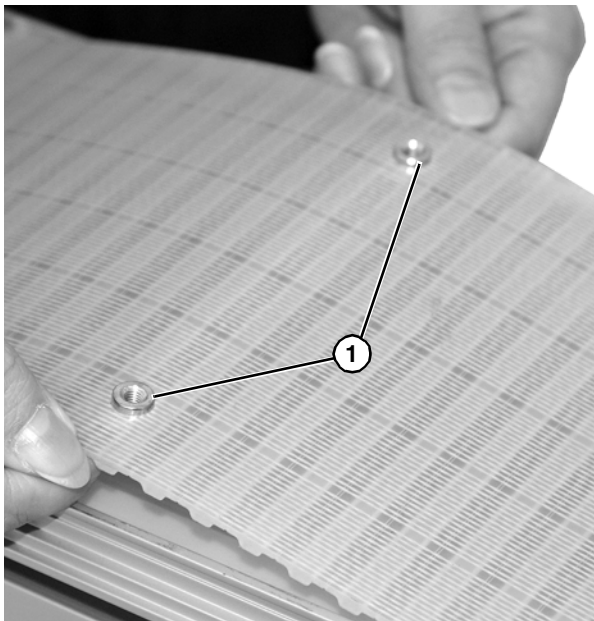

Figure 12
2. Install inserts (Figure 12, item 1) from underside of belt.